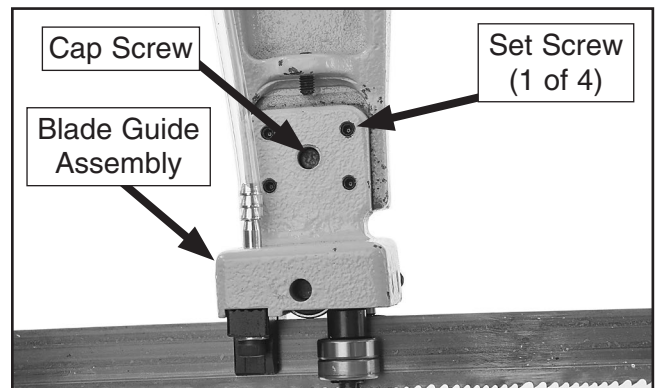

Figure 62. Set screws for adjusting blade-to-table squareness.
- If blade *is not* square to table, loosen cap screw shown in **Figure 62** one to two turns and repeat on second blade guide assembly.
- If top of blade tilts away from square, loosen top two set screws shown in **Figure 62** and tighten bottom two set screws an equal amount while keeping an eye on blade squareness (the amount you tighten and loosen the screws depends on how far from square the blade is). Repeat for second blade guide assembly.
- If bottom of blade tilts away from square, tighten top two set screws shown in **Figure 62** an equal amount and loosen bottom two set screws while keeping an eye on blade squareness (the amount you tighten and loosen screws depends on how far from square blade is). Repeat for second blade guide assembly.